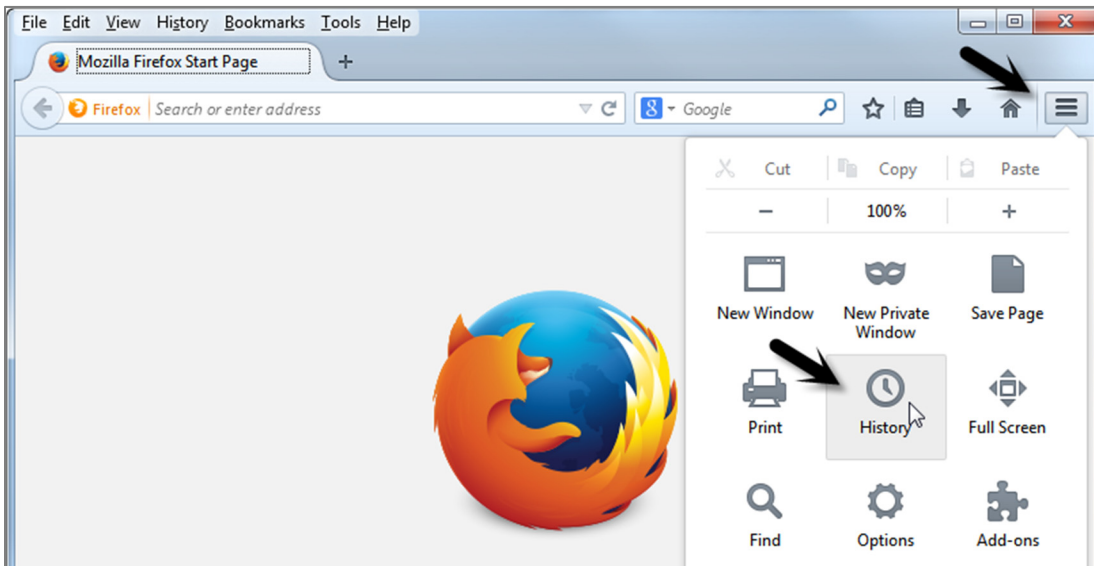

Figure 15: Firefox menu
- a) Click **Menu** button at top-right corner of Firefox window to display menu (Figure 15).